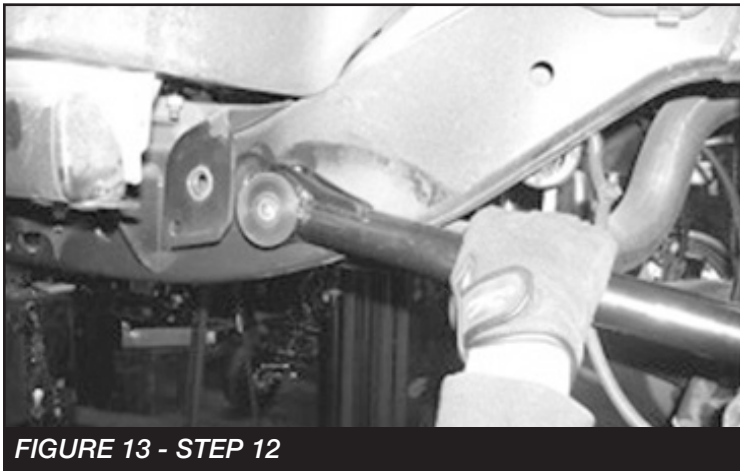

FIGURE 13 - STEP 12
12. Locate FT50317BK (upper links) and press in the FT1003 (half bushings), FT7100-6-100 (Sleeves) and install a zerk grease fitting into each end. Install the new links using the factory bolts and hardware. Torque to 160 ft-lbs. **SEE FIGURE 13**